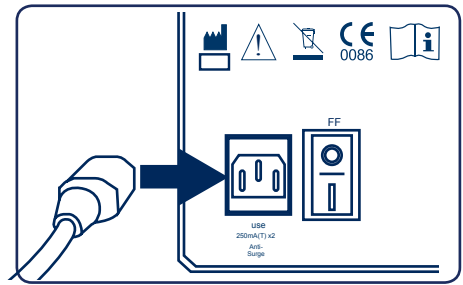

fig. 1
1. Connect the power lead to the GastroCH₄ECK via the socket on the rear of the panel (please see instrument layout). Connect to the electricity supply. (fig. 1)